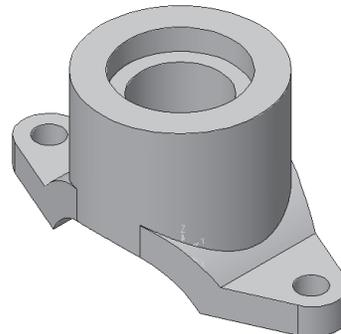

Figure 3-85 Final model
- Create the holes using the cut feature, refer to Figure 3-85.
9. Select the **Through** radio button. Check the preview by selecting the **Preview** button and choose **OK**. The final model is shown in Figure 3-85.